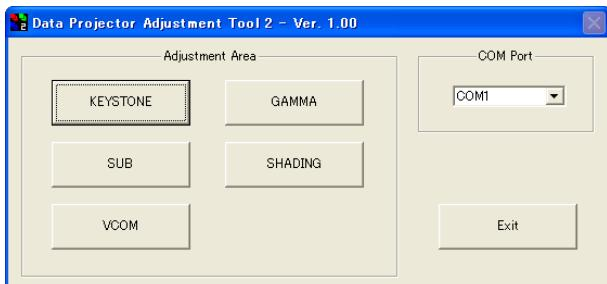

Fig. 5-2
(2) Adjustment software
- When the Adjustment software (DPJAdjustmentTool2.exe) is started, the following starting (initial) screen image (Fig. 5-2) appears.